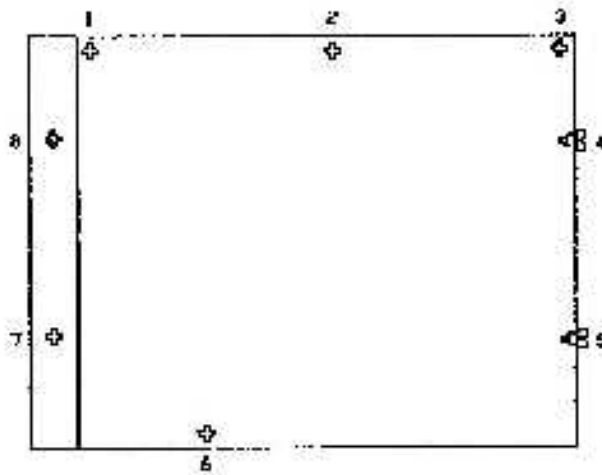

FIGURE 1
5. To access the bottom of the board remove the 8 screws that mount the board and heat sink to the chassis (See figure 1).